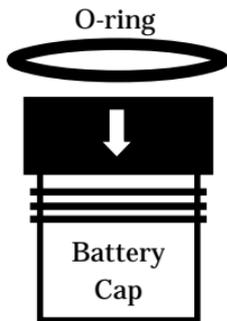

Fig. 109 - O-ring Installation
- To replace the o-ring, lightly lubricate it with silicon grease and stretch it slightly to work it down over the head of the cap (Fig. 109), DO NOT roll it over the threads. Ensure that it is evenly seated inside the groove